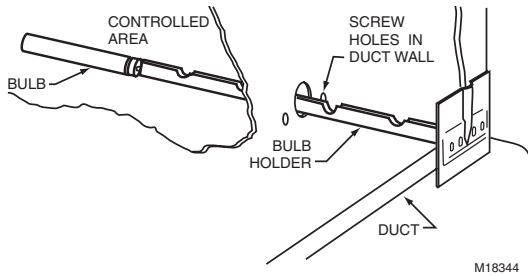

Fig. 10. Inserting the bulb and bulb holder into the duct.
6. Insert the bulb and bulb holder into the duct through the hole prepared in Step 1. See Fig. 10.